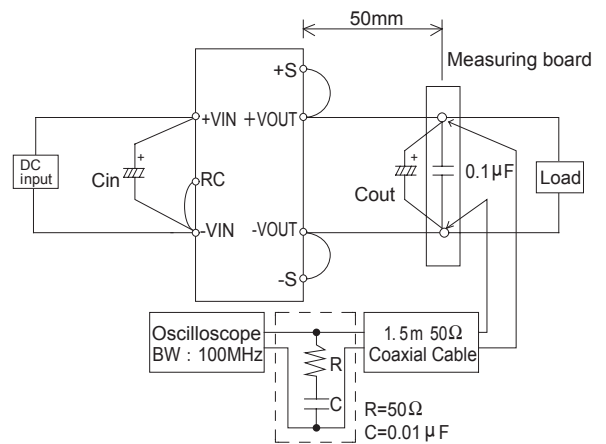
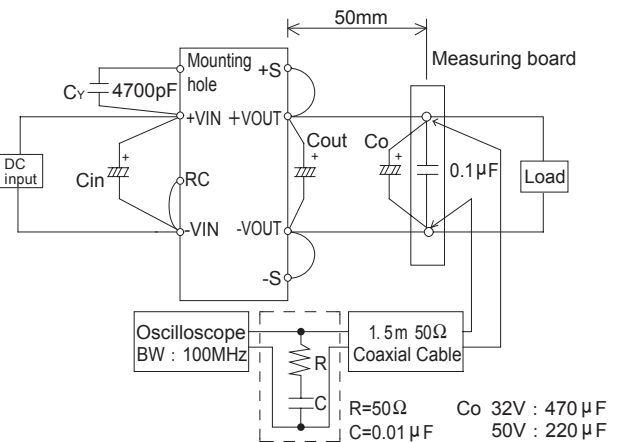

Fig.2.4 Method of Measuring Output Ripple and Ripple Noise (CQHS250)
Fig.2.5 Method of Measuring Output Ripple and Ripple Noise (CQHS300/CQHS350)
- The specified ripple and ripple noise are measured by the method introduced in Fig. 2.4 and Fig.2.5.